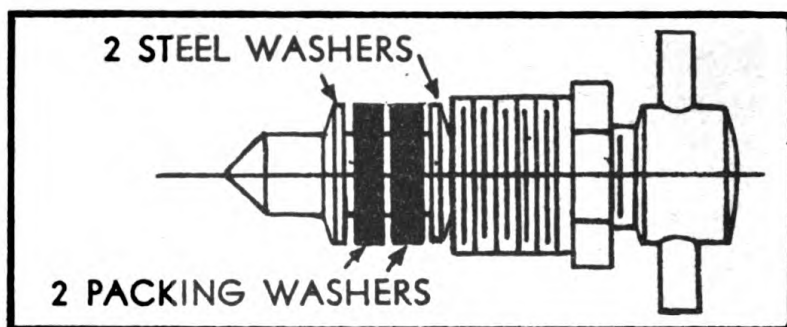

FIGURE 69. SUPPORT JACK RELEASE SCREW
- (5) A nicked screw should be replaced.
- (6) When reassembling release screw avoid loose threads off packing.
- (7) Sketch above (Figure 69) will aid in assembling release screw correctly.
h. Ram cup.—(1) A worn or loose ram cup will cause your jack to lower under load and leak oil around the ram.